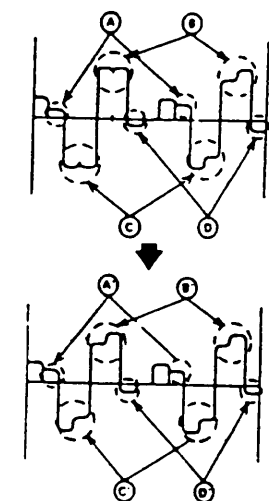

Fig 4.
- 3: Adjust T403 so that the waveform may be the same as shown in fig. 4.